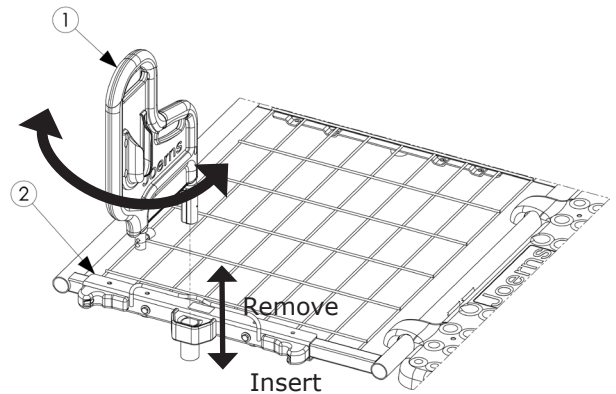

Figure 10
1. Insert the assist handle into the mounting bracket (Figure 10). The assist handle must be perpendicular to the sleep surface.
5. To remove the assist handle: orient the assist handle perpendicular to the sleep surface (Figure 10). Pull straight up on the assist handle to remove.